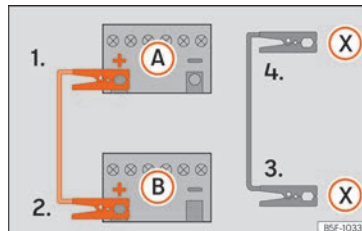

Fig. 47 Diagram of connections for vehicles with Start Stop system
- 4b. *In vehicles with a Start-stop system:* connect one end of the black jump lead **(X)** to a suitable ground terminal, to a solid piece of metal in the engine block, or to the engine block itself » **Fig. 47**. »
- Connect the other end of the *black* jump lead (X) to a solid metal component bolted to the engine block or to the engine block itself of the vehicle with the flat battery. Do not connect it to a point near the battery (A).